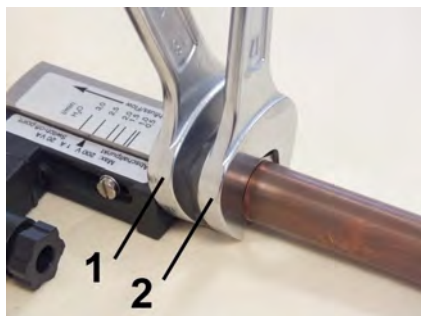

Fig. 11: Screw in the device
3. ➔ Keep turning in the adapter union (Fig. 11/1) while holding the process connection of the device locked (Fig. 11/2) until the connection is tight.